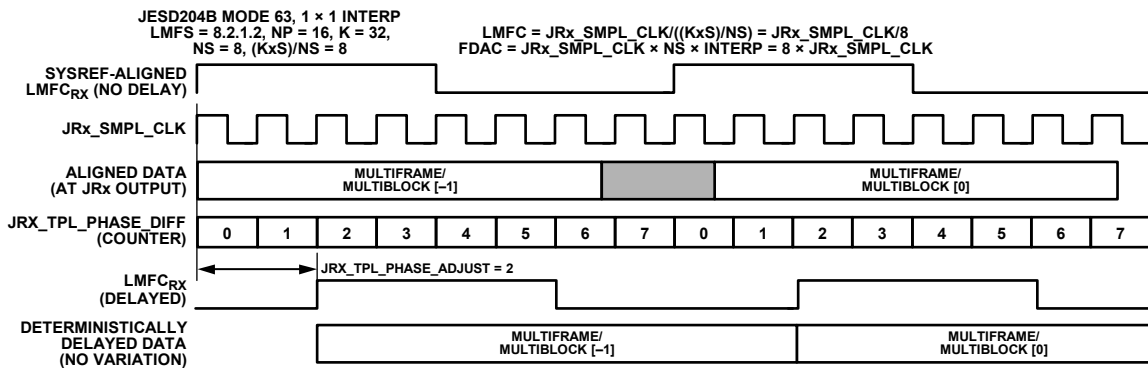
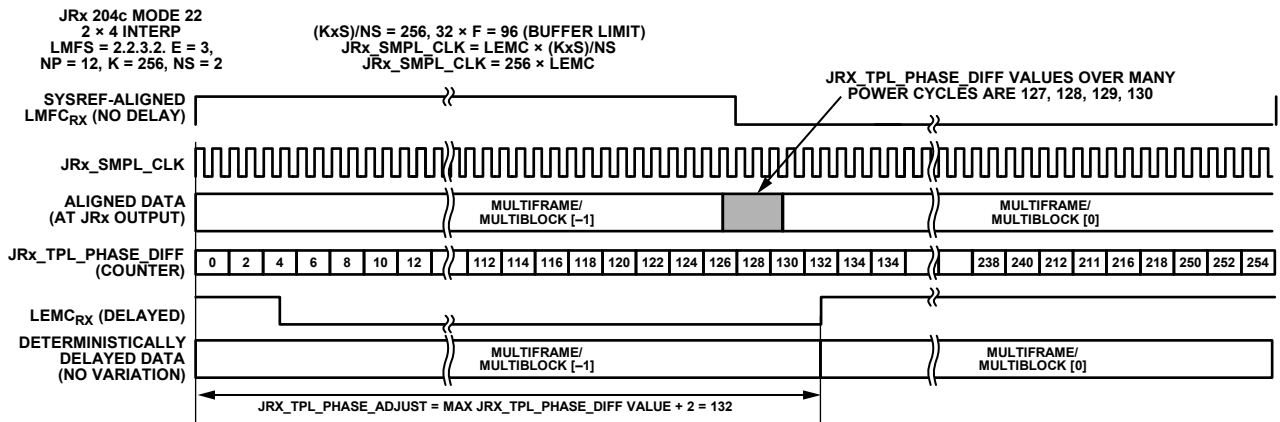

Figure 66. Example 2, Setting LMFC/LEMC Delay for Deterministic Latency (Derived from JRX_TPL_PHASE_DIFF)
Figure 67. Example 1, Setting LMFC/LEMC Delay for Deterministic Latency (Derived from JRX_TPL_PHASE_DIFF)
3. The latest possible arriving time is equal to the largest value recorded in Step 1. The count values range from 0 to $((K \times S)/NS) - 1$ (the number of JRX_SAMPLE_CLK cycles in the LMFC/LEMC. If the range of values recorded span the terminal count value of the JRX_SAMPLE_CLK counter, the latest possible arriving time value could be from 0 to 3 (see the example in Figure 67).
Figure 67 shows an example using JESD204B Mode 63 (1 × 1 interpolation). Step 1 through Step 3 in this example reveal that there are only two possible values recorded in Step 2, that is, 7 and 0. Accounting for the counter roll-over from 7 to 0, 0 is the latest arriving time (from Step 2). Therefore, a value of 2 is programmed into the JRX_TPL_PHASE_ADJUST register (0 + 2, as described in Step 3). The data read out of the read buffer is deterministically delayed and output on the delayed LMFC/LEMC boundary (read pointer).
Figure 66 shows an example using JESD204C Mode 22 (2 × 4 interpolation). In this example, the receive buffer depth is 32 × F JRX_SAMPLE_CLK deep, which is 96. The LEMC contains
Certain combinations of these parameters are supported by the device. See Figure 67 and Figure 66 for a list of supported JESD204B/C modes.